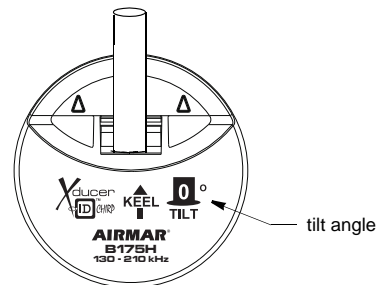
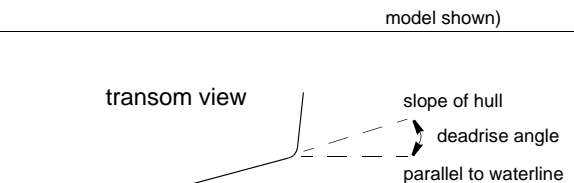

Figure 1. Top of transducer (0°)
Figure 2. Deadrise angle of the hull
Be sure your transducer model matches the deadrise angle of your hull at the selected mounting location. The tilt angle is printed on the top of the transducer (see Figure 1). To measure the deadrise angle of your hull at the selected mounting location, use an angle finder or a digital level (see Figure 2).
**12° and 20° models**—From inside the hull, point the arrow on the top of the transducer (and the cable exit) toward the KEEL or centerline of the boat (see Figure 1). This will align the angle of the element inside the transducer with the deadrise angle of your hull.